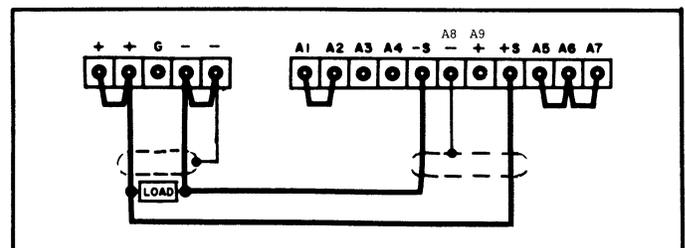

Figure 3-3. Remote Sensing
a. Turn-off power supply and arrange rear terminal strapping pattern as shown in Figure 3-3. The sensing wires will carry less than 10mA and need not be as heavy as the load wires. It is recommended that sensing and load wires be twisted and shielded. (If shield is used, connect one end to power supply negative terminal and leave the other end unconnected.)